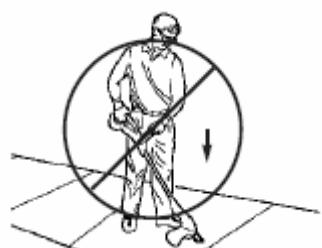

Fig. 20
8. DO NOT BUMP TRIMMER ON CONCRETE. This can damage the string head (Fig. 20). String head feeds automatically.